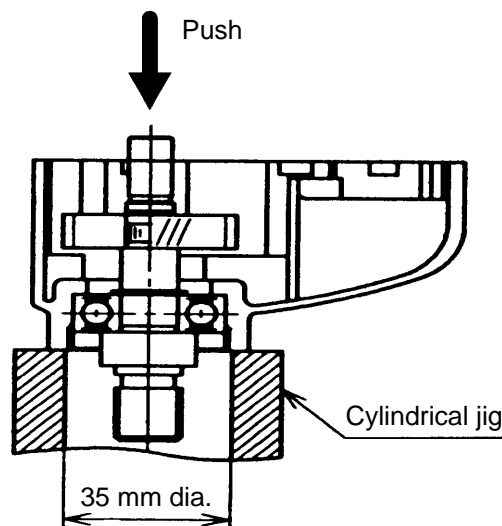

Fig. 3
(1) Loosen the four Tapping Screws D5 x 55 [7], and remove the Gear Cover [8], together with the Spindle [4], the Final Gear [16], and the related parts as a single unit. Then, the Second Pinion [10] and Washer [11] can be removed easily.
(2) Remove the Bearing Caps [3] with the J-21 wrench.
(3) As illustrated in Fig. 3, support the tip of the Gear Cover [8] with a cylindrical jig of inside diameter 35 mm or more, and push the rear portion of the Spindle [4]. At this time, the Final Gear [16] will come off of the Spindle.
(4) Remove the D12 Retaining Ring [6] from the Spindle [4], and the Ball Bearing [5] can be removed from the Spindle [4] with the J-30 bearing puller ass'y (special repair tool, Code No. 970804).